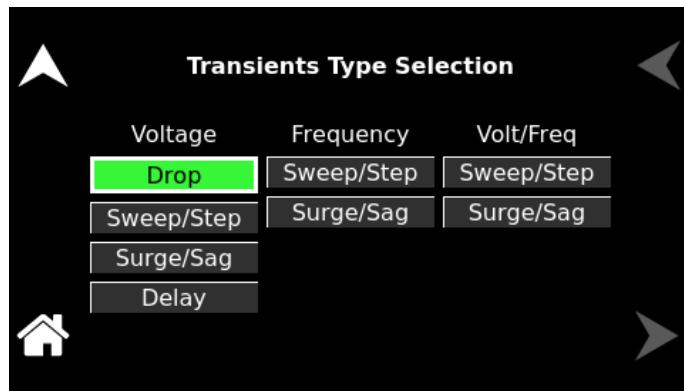
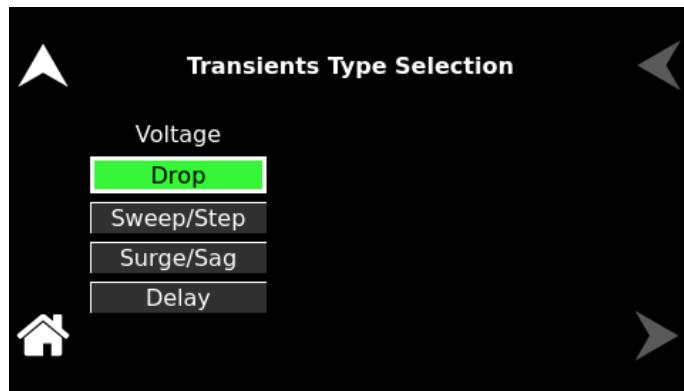
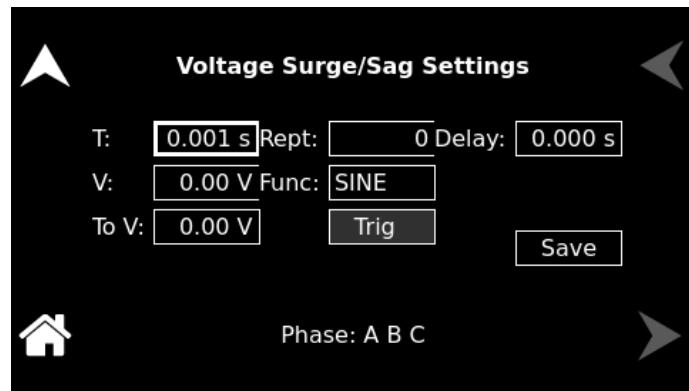

Figure 8-8: AC Mode Transients Type Selection for Source and Grid-Simulator Operating Modes
Figure 8-9: DC Mode Transients Type Selection for Source and Grid-Simulator Operating Modes
Figure 8-10: List Menu, Voltage Surge/Sag Settings sub-menu
3. Tap the ADD field to enter the ADD sub-menu; refer to Figure 8-8 and Figure 8-9.
4. Tap the VOLTAGE SURGE/SAG selection button, refer to Figure 8-8 and Figure 8-10. Enter the following parameter values: